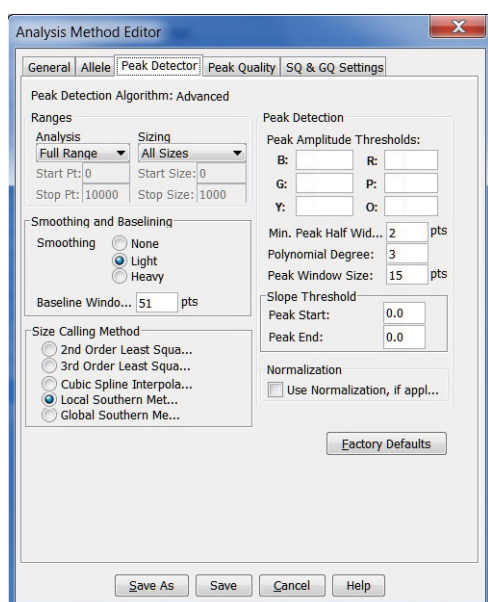

Figure 25. The GeneMapper® ID-X 'Peak Detector' tab.
9. Select the 'Peak Detector' tab (Figure 25). You will need to optimize these settings. In-house validation should be performed.